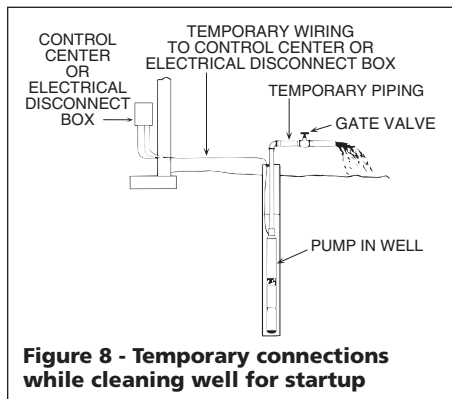

Figure 8 - Temporary connections while cleaning well for startup
5. Open gate valve on discharge one-third of the way. Start pump (see Figure 8).